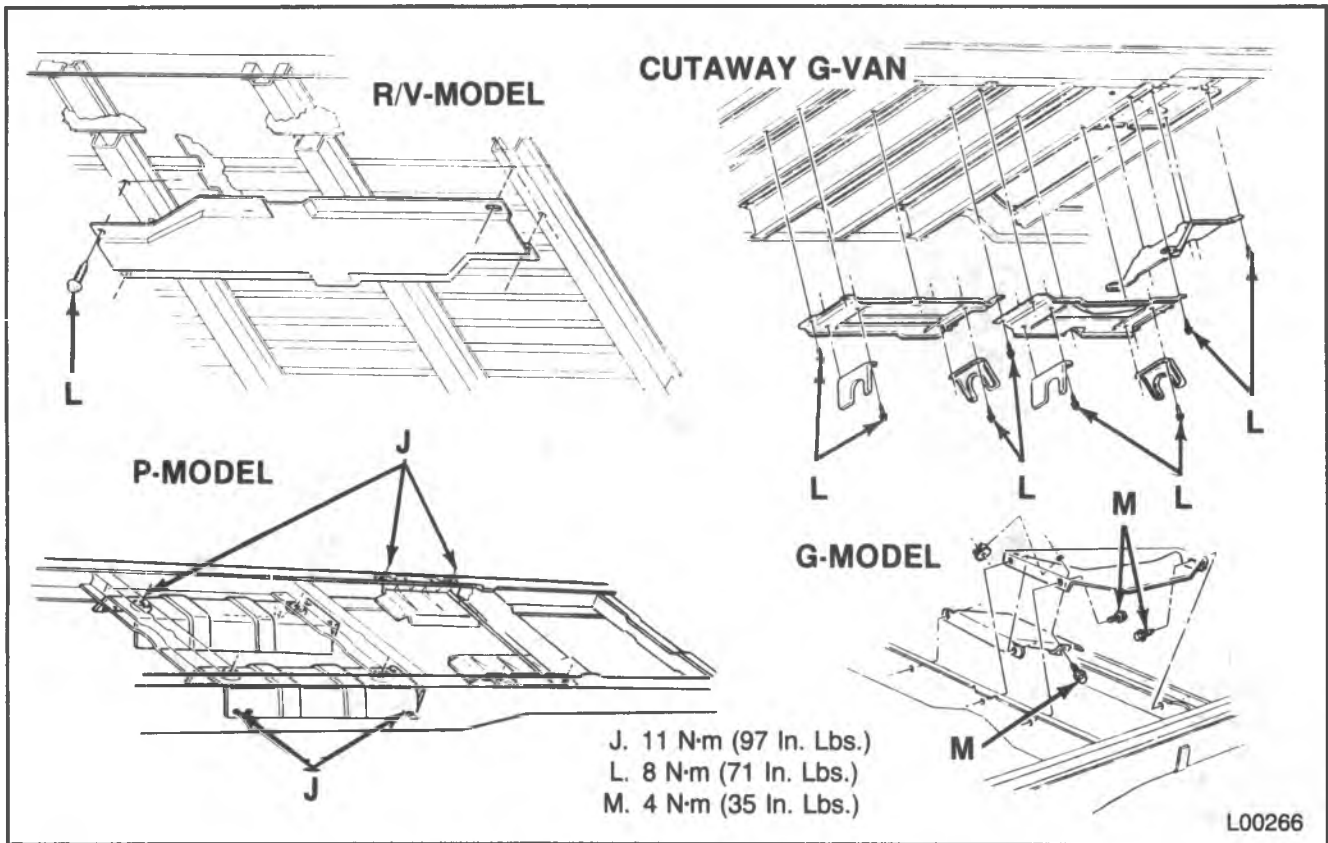

Figure 3 — Exhaust Heat Shields (Typical)
- 1. Heat shield (Figure 3).
- 3. Heat shield (Figure 3).